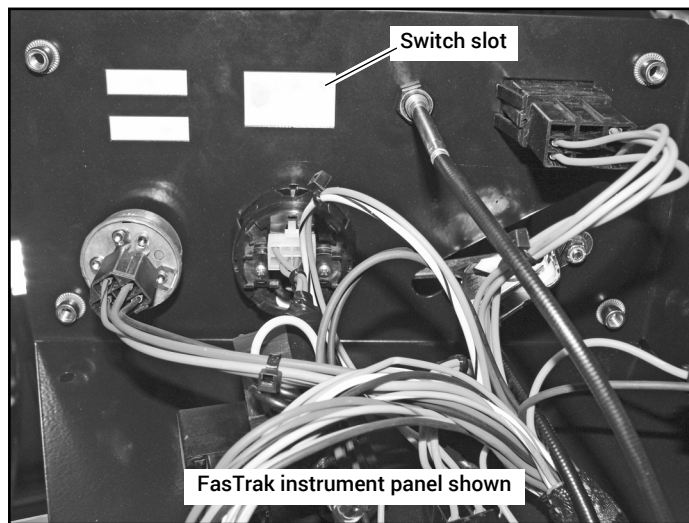
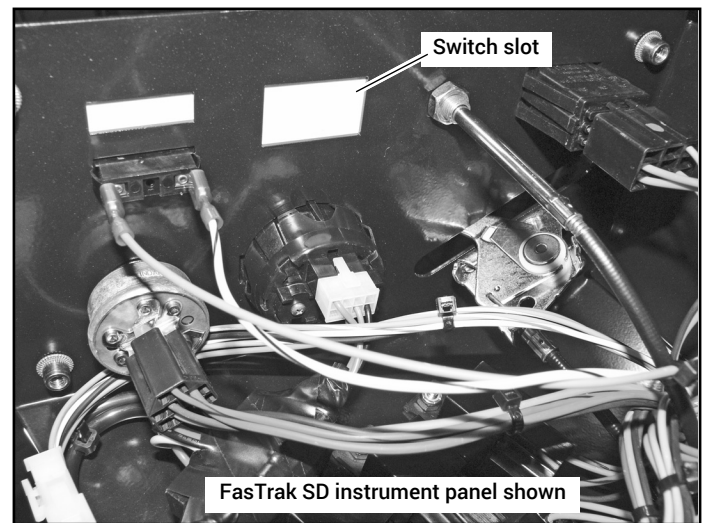

FIG. 4
FIG. 5
9. Locate the switch slot on the underneath side of the instrument panel. Using a sharp knife, cut the decal so that the switch can be inserted into the slot. FIG. 4 & FIG. 5